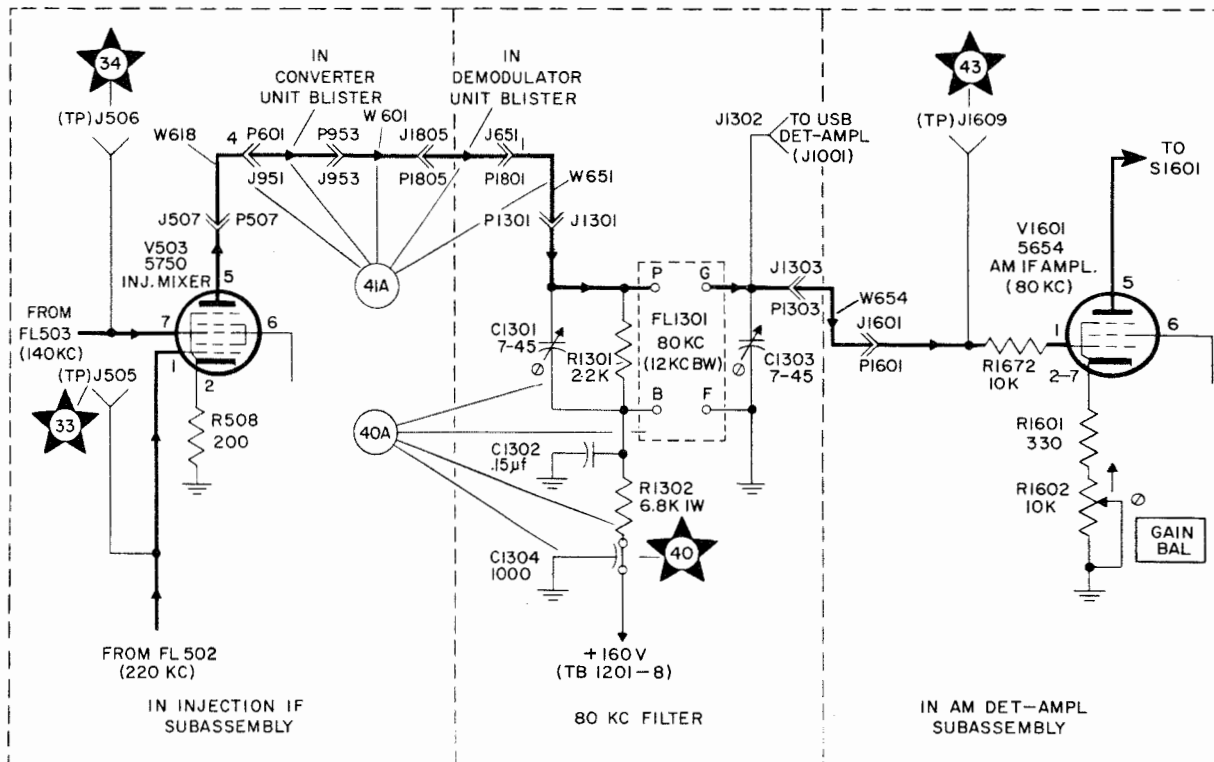
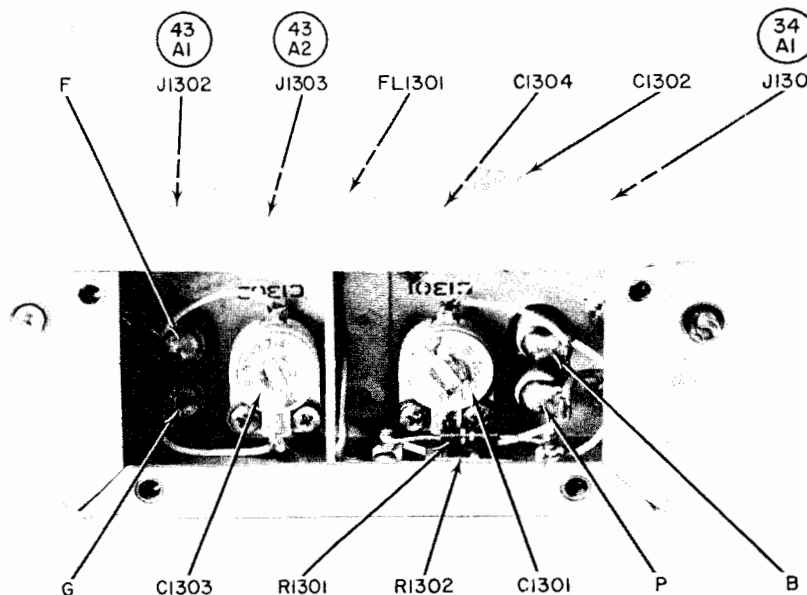

Figure 5-24. 80 Kc Filter, Functional Schematic Diagram
Figure 5-25. 80 Kc Filter, Location of Parts and Test Points
a. **DIAGRAMS.**—Figure 5-24 is a functional schematic diagram of the 80 kc filter, and figure 5-25 shows the location of parts and test points. Refer also to figure 5-18 because the plate circuit load for V503, injection IF mixer, is located in the 80 kc filter (FL1301).
- (1) Input connector J1301
- (2) Output connectors J1302 and J1303
- (3) The soldered connection at feed-through capacitor C1304.